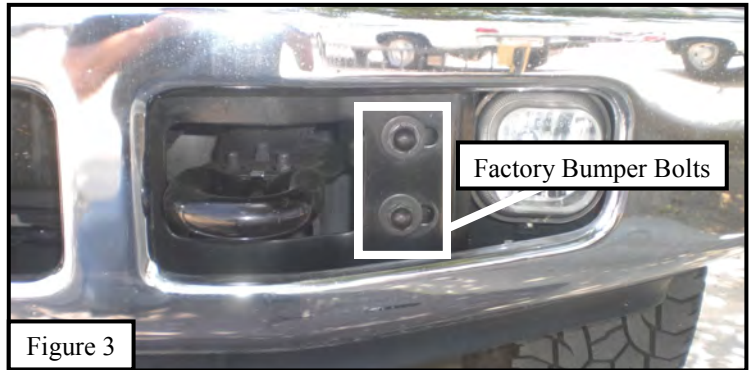

Figure 3
4. Move to the front of the bumper and remove the (4) factory bumper bolts. **Note:** The (4) factory bumper bolts and the (2) factory nut plates will be used to attach the grille guard. (**Figure 3**)